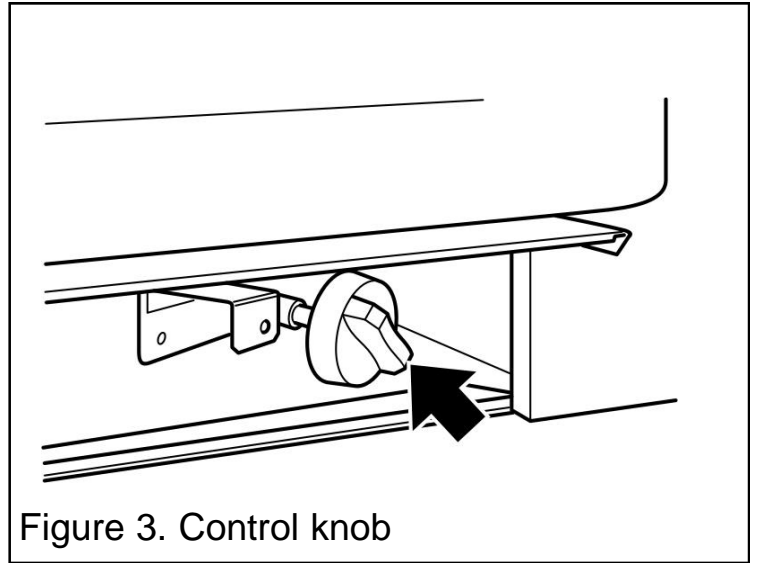

Figure 3. Control knob
- Depress the control knob and turn anticlockwise towards the PILOT/IGN position (See figure 3). A spark should be generated at the pilot while turning. The spark should ignite the pilot. The pilot flame can be seen at the left side of the fuel effect.